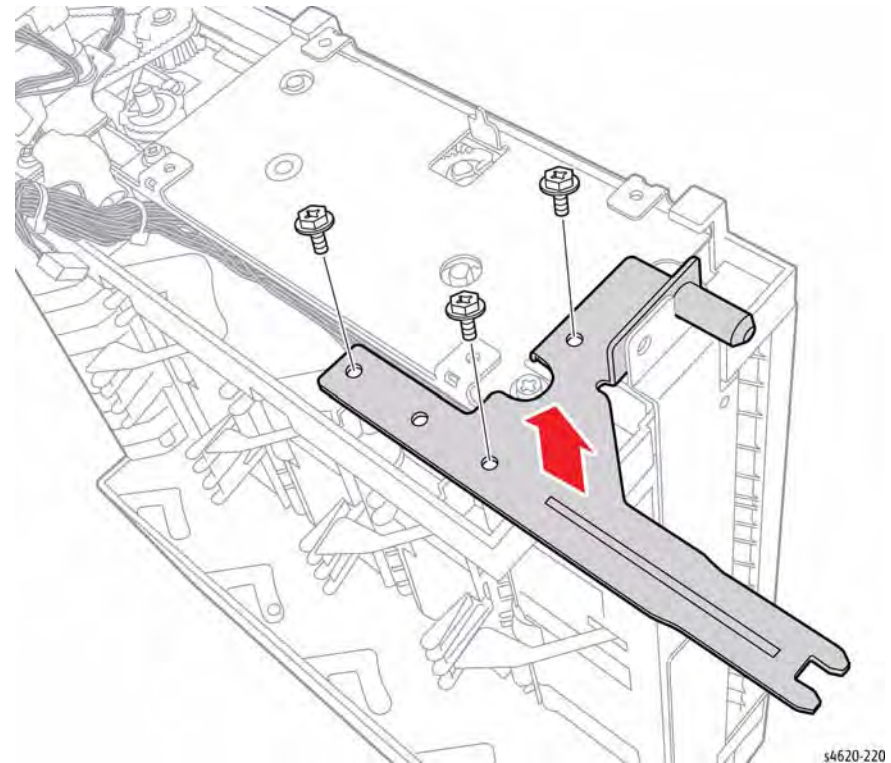

Figure 1 Remove the mounting bracket
5. Remove 3 (plastic) screws that secure the mounting bracket, Figure 1.